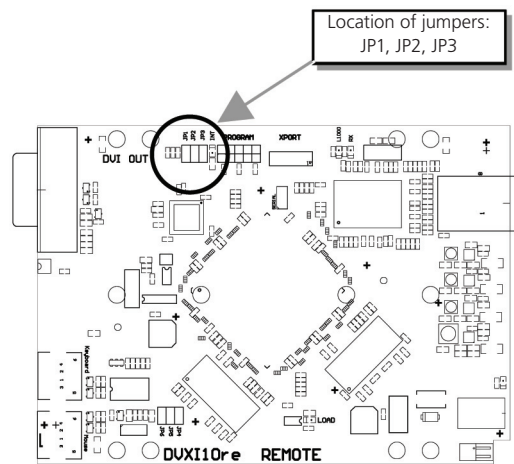

Figure 4-3. Schematic of the interior of the remote unit. Note the position of the jumpers.
1. Use the left and right arrow, shown in Figures 4-3 and 4-7 to highlight the icon you want. The OSD displays additional icons relating to commands in the selected menu category.